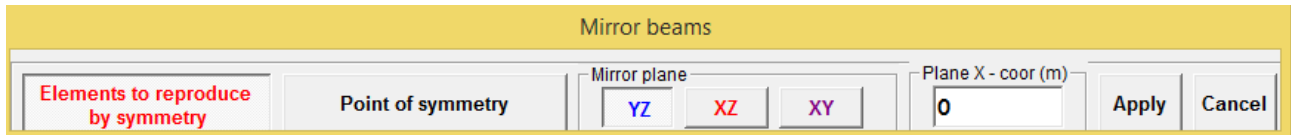

Figure 20
**Step 1:** Click button  Figure 20 will appear. *(Note that the button 'Element to reproduce by symmetry' is in clicked mode. This means that this is the current command.)*